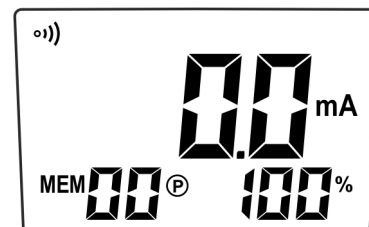

Fig. 20
2. The instrument displays the message “**OL Ω**” as it automatically sets for resistance measurement. Shortly press the multifunction key **▲A** to enter current measuring mode. The screen in Fig. 20 is displayed